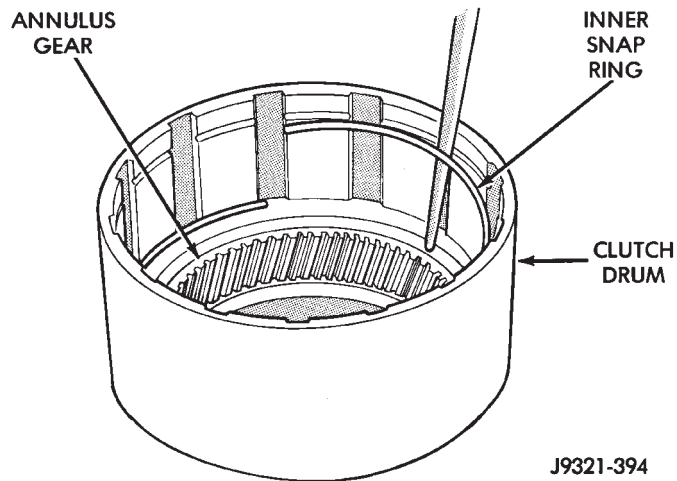

Fig. 223 Clutch Drum Inner Retaining Ring Installation
(6) Slide clutch drum forward and install inner retaining ring (Fig. 223).